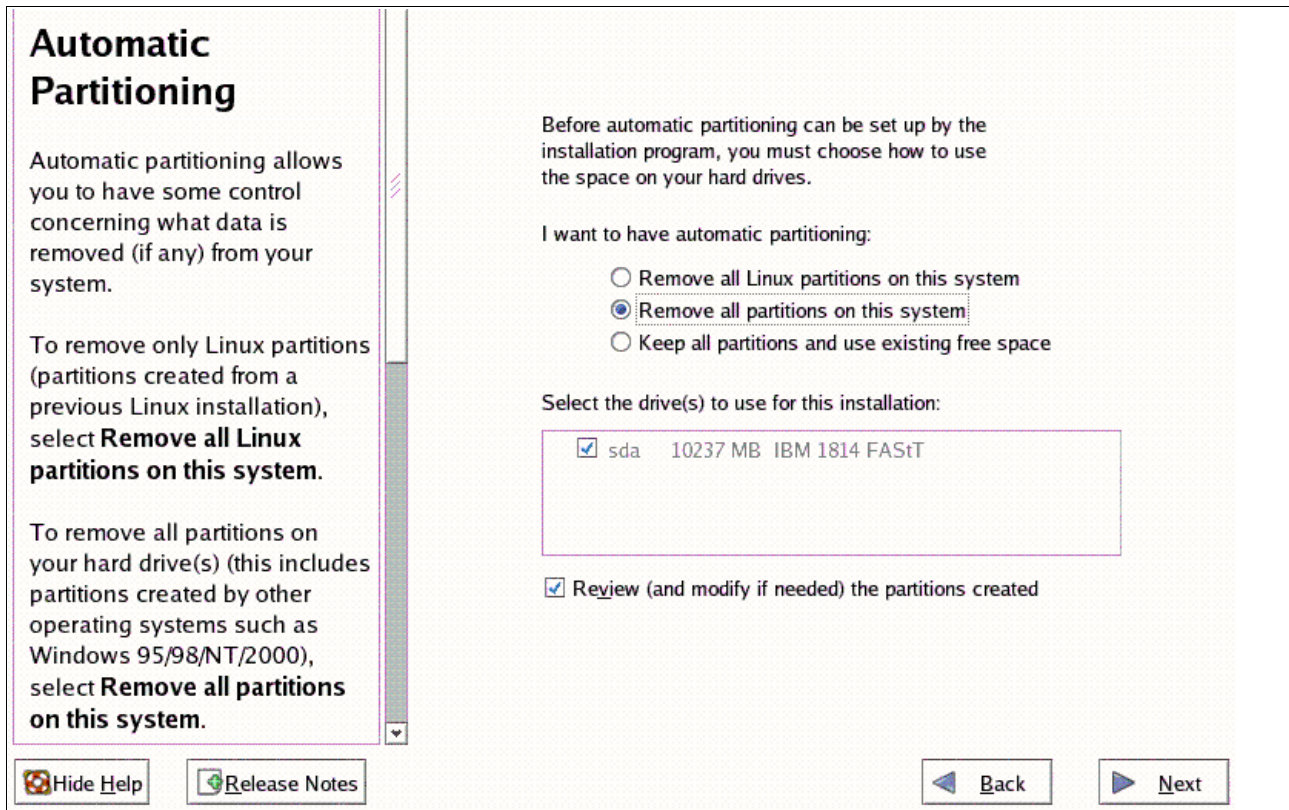

Figure 6-26 Remove all partitions on the system
8. If there was a previous image installed on the boot disk, then it is highly recommended that you remove all the partitions as shown in Figure 6-26. Click **Next**.